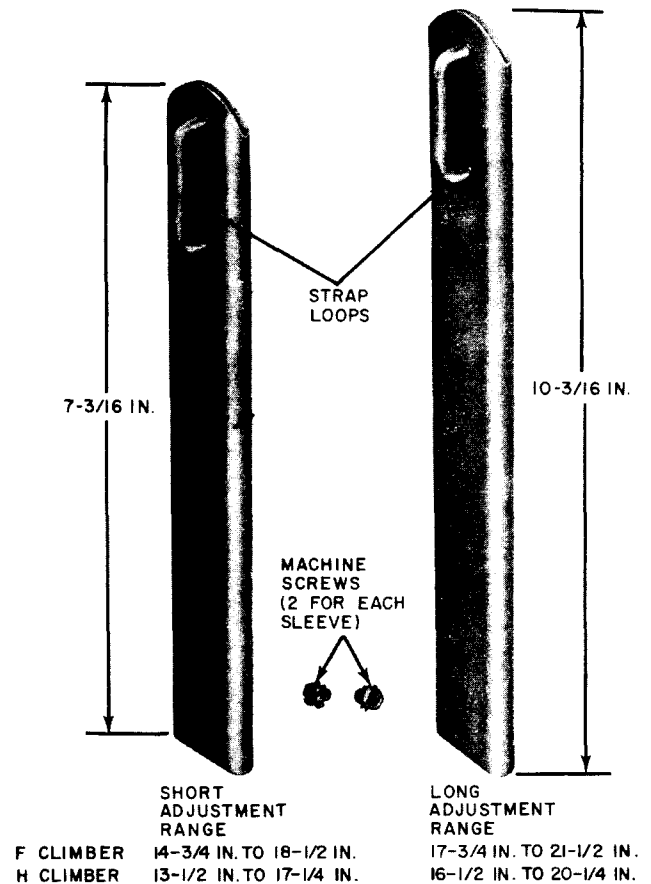

Fig. 4—♦Sleeves for Adjustable Climbers♦
3.08 The sleeves used on adjustable climbers are designed to fit snugly over the shank of the leg irons and to be securely locked in the desired position by machine screws. The sleeves are available in two lengths and can be adjusted in increments of 1/4 inch. Figure 4 illustrates the sleeves, the lengths available, and the adjustment range of each sleeve.
4.01 Determine the correct sleeve to use by measuring the distance from the lower edge of the projecting kneebone to the underside of the shoe at the arch as shown in Fig. 9 and subtract 1/2 inch from this length. Select the climber sleeve that covers this range (paragraph 3.08, Fig. 4). When ready to assemble the climber for use, proceed as follows: